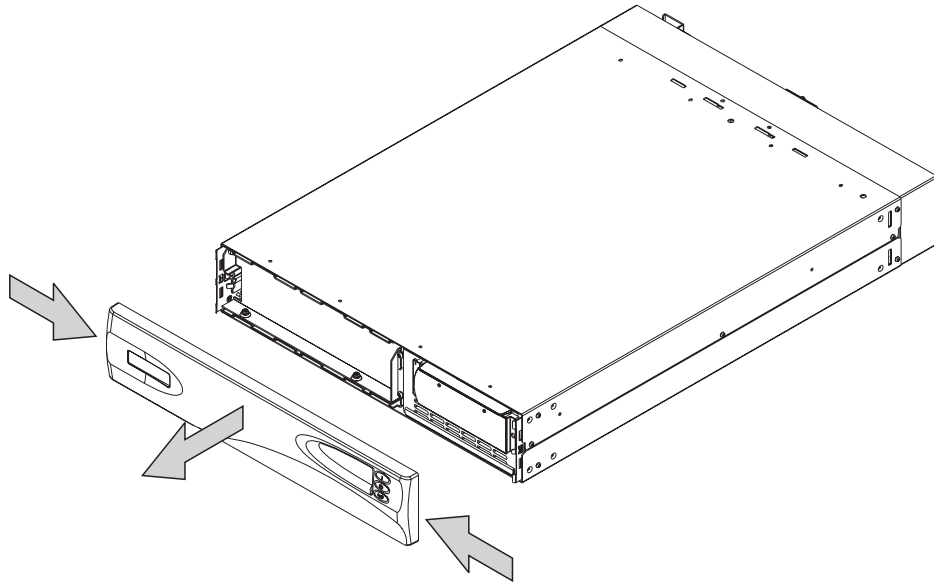

Figure 114. Removing the uninterruptible power supply front panel
2. Remove the front panel by pressing the sides inward, then pulling on both ends (Figure 114 on page 172).